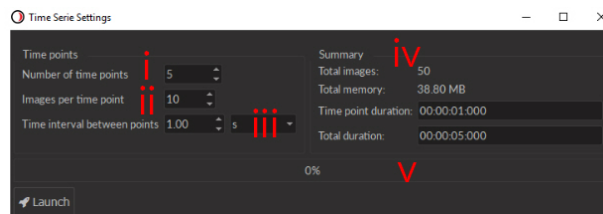

Figure 4.3: Time Series Window
- The **Time Series** button (Fig. 4.2), when pressed, opens the time series interface (Fig. 4.3).
- The **Number of time points** (Fig. 4.3) defines the number of moments when a set of images will be recorded.
- The **Images per time point** (Fig. 4.3) defines the number of images taken in each set.
- The **Time interval between points** (Fig. 4.3), defined in ms, s and min, defines the duration between each image set. This duration always has a minimum value of **Exposure time x Images per time point**.
- The **Summary** box (Fig. 4.3) shows many values related to the time series, including the **Total images** recorded, the **Total memory** occupied by the full series, the **Time point duration** and the **Total duration** of the full series.
- The **Progression bar** (Fig. 4.3) displays the progress (in %) of the time series.